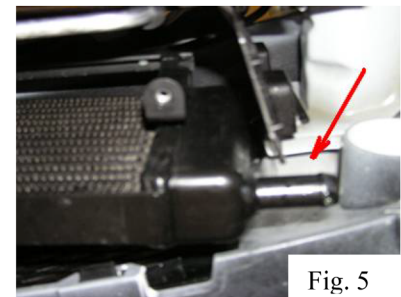

Fig. 5
- 12) Drain the coolant from the heat exchanger by removing the lower hose on the passenger side of the stock unit (Fig. 5).